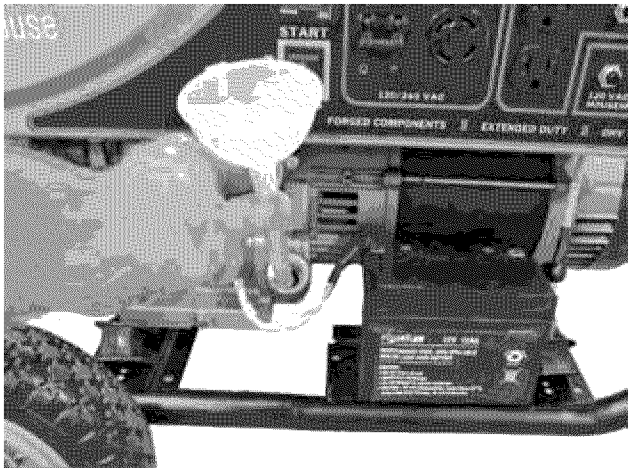

Figure 33 – Adding Engine Oil
7. Using the supplied funnel and tube, slowly add engine oil to the engine. Stop frequently to check the level to avoid overfilling (see *Figure 33*).